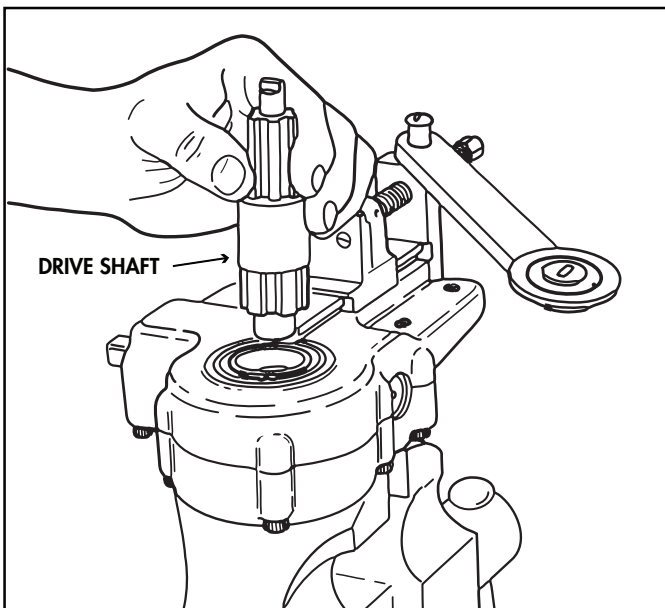

Figure 3. Installing Drive Shaft in Tube Bender Proper
b. Select the proper size drive shaft to fit the form block of the required size and insert the drive shaft into the tube bender proper with the large splines downward. (See figure 3.) Make certain the drive shaft splines are fully engaged and that the drive shaft is inserted all the way into the tube bender so that the lower journal is in the inner race of the ball bearing. (43, figure 12.)